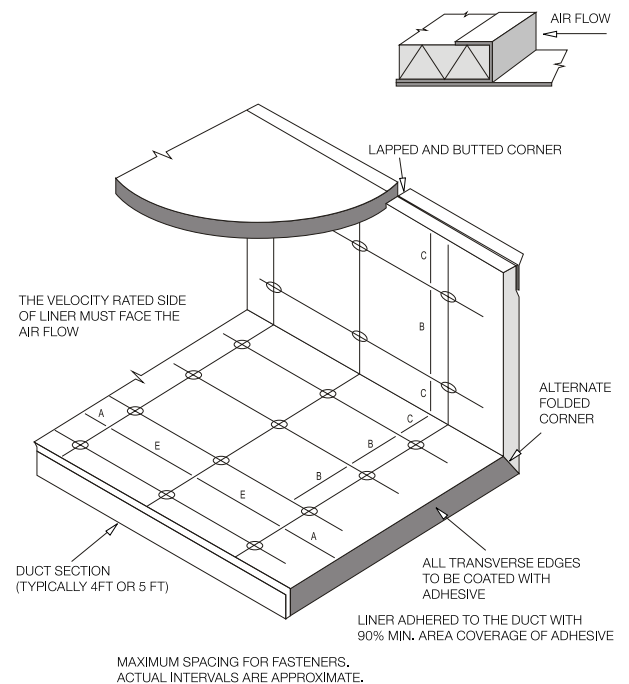

Figure 2
- are spaced in accordance with Figure 2,